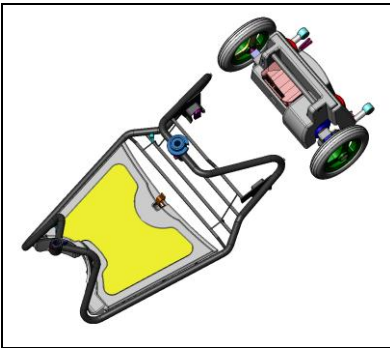

figure 2
- b. Lay the frame at the front of the power unit (See **figure 2**)